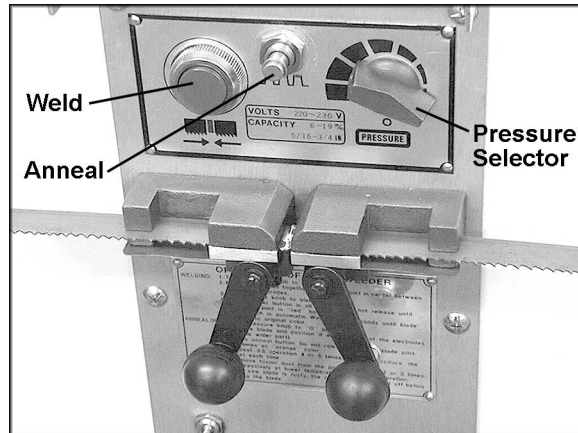

Figure 18
6. Insert one end of the blade in the left clamp (Figure 18). Position the back edge of the blade against the back edge of the left clamp. Then position the end of the blade midway between the left and right clamps. Tighten the left clamp.
9. Press and hold the weld button (Figure 18). When the weld button is pushed, the left clamp moves to the right to apply pressure to the blade ends. At the same time, sparks will come from the blade ends as they are being welded. Do not release weld button until the blade joint is "red hot."
16. Quickly press and release (jog) the anneal button (Figure 18). Repeat the press-and-release process until you see a slightly red glow from the weld area.